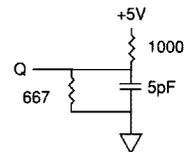

Fig. 2 OUTPUT LOAD EQUIVALENT
6. t¹HZCS, t¹HZOE, and t¹HZWE are specified with CL = 5pF as in Fig. 2. Transition is measured ± 500mV from steady state voltage.